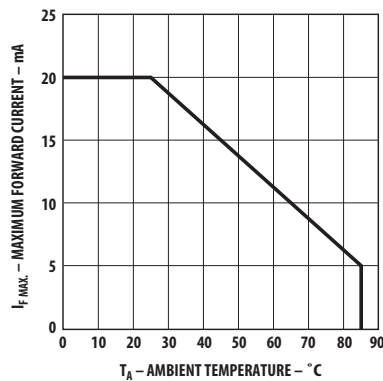

Figure 4. Maximum forward current vs. ambient temperature.
3. Derate linearly as shown in Figure 4.